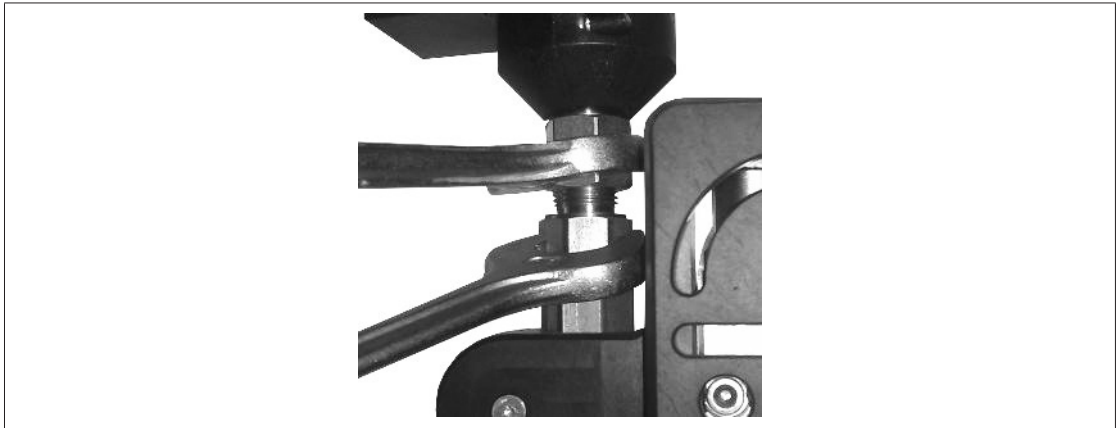

Figure 3: Mount hose connection
2. Lock the threaded nipple with a second size 19 open-end wrench (see Figure 3).